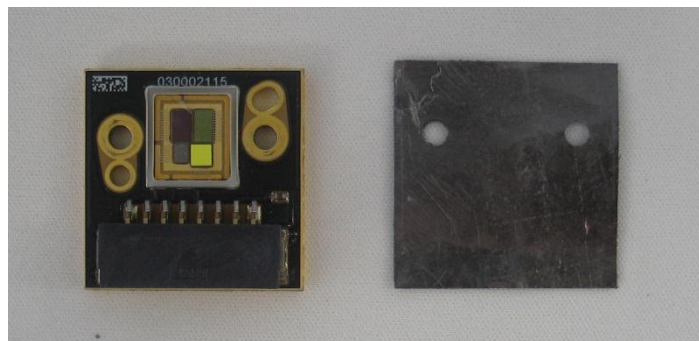

Figure 7: CBM-380 and an appropriate TIM sheet
1. Use a thermal interface sheet that is slightly larger than the core-board (Figure 7).